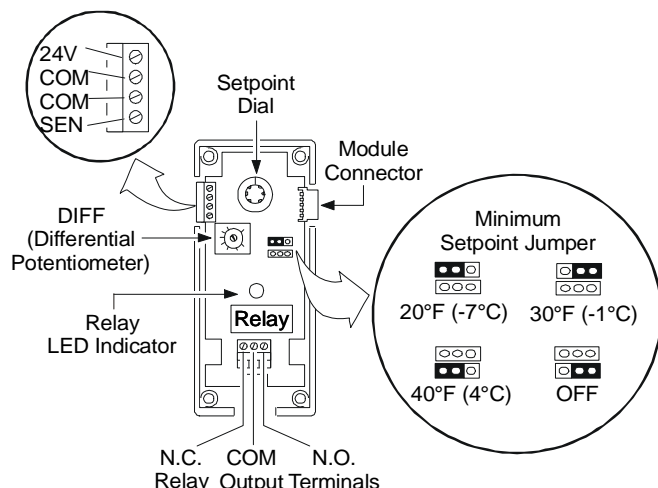
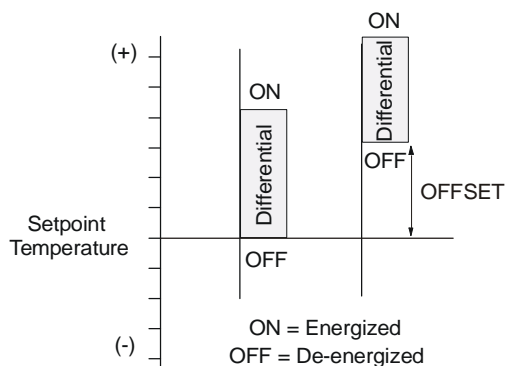

Figure 2: A350E Electronic Cooling Control Board Layout and Terminal Locations
Figure 3: Relationship Between Differential Setpoint and Offset
Setpoint is defined as the temperature at which the A350E's relay will de-energize. Refer to Figure 3. Use the Setpoint Dial on the front of the A350E to adjust setpoint. See Figure 2.
Four possible settings are available: 20°F (-7°C), 30°F (-1°C), 40°F (4°C), and Off. Refer to Figure 2 and use the jumper to select the desired minimum setpoint.
Differential is defined as the change in sensor temperature between the energization and de-energization of the relay. (See Figure 3.) The differential can be adjusted between 1 and 30°F (0.6 and 16.7°C). Adjustment is made using the differential potentiometer, marked DIFF. (See Figure 2 for location.)
Consult Figures 2, 5, and 6 for proper wiring configurations and terminal designations.
Shielded cable is not generally required for sensor wiring on runs of less than 50 ft (15.2 m), but is recommended for lengths greater than 50 ft (15.2 m). Connect the shield to the COM sensor terminal on the A350E. (See Figure 2 for terminal location.) Sensor A99BA-200, which includes a shielded cable, is available if needed.
- a. Connect a Digital Voltmeter (DVM) between the 24V (+) and COM (-) terminals located on the control's left side terminal block (Figure 2).